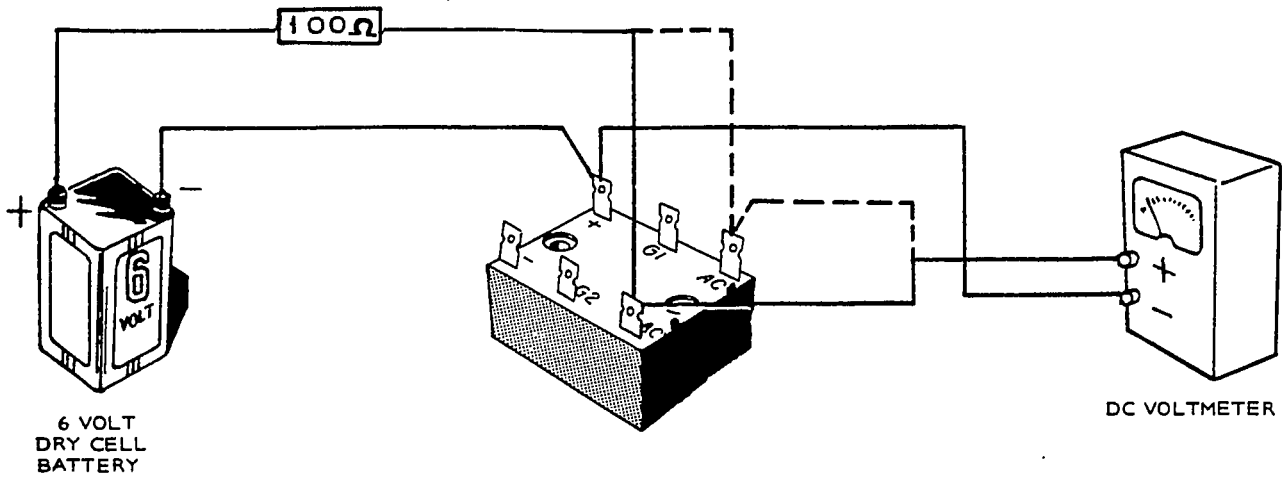

FIGURE 15. TESTING CR21
Disconnect wires from rectifier unit prior to testing. Test unit in order shown in Table 1. Refer to Figure 15 for SCR1 and SCR2 test circuit. When test is complete and satisfactory, reconnect unit observing correct wiring hook-up.
* - Apply temporary jumper from AC1 to G1 to test SCR1. Remove jumper and read voltmeter. See Figure 15.
** - Apply temporary jumper from AC2 to G2 to test SCR2. Remove jumper and read voltmeter. See Figure 15.